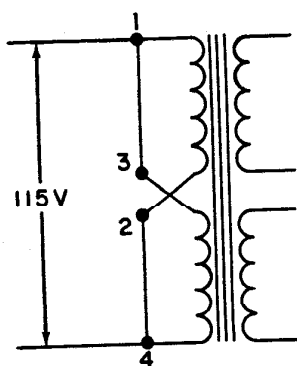
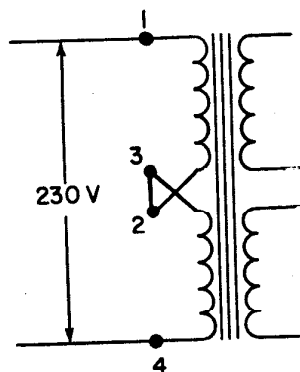

FIGURE 2-1A
FIGURE 2-1B
Certain HR-8 Models are equipped with a 115-230 Voltage switch on the rear panel. If the switch position does not match the available line voltage, insert a screwdriver blade into the slot in the switch and snap the switch to the appropriate position. If the unit does not have a rear-panel voltage switch, the power transformer is normally wired for operation at 105-125 volts AC, 50-60 Hz, as illustrated in Figure 2-1A. However, the transformer primary winding can be reconnected as shown in Figure 2-1B for operation on 210-250 volts. If the instrument is shipped with the latter connection, a tag will be found attached to the line cord at the plug end indicating the 210-250 volts connection. A change from one connection to the other can be easily made at any time. To gain access to the transformer terminals, proceed as follows:
- 4) Change the primary connections to the proper configuration as shown in Figures 2-1A and 2-1B.